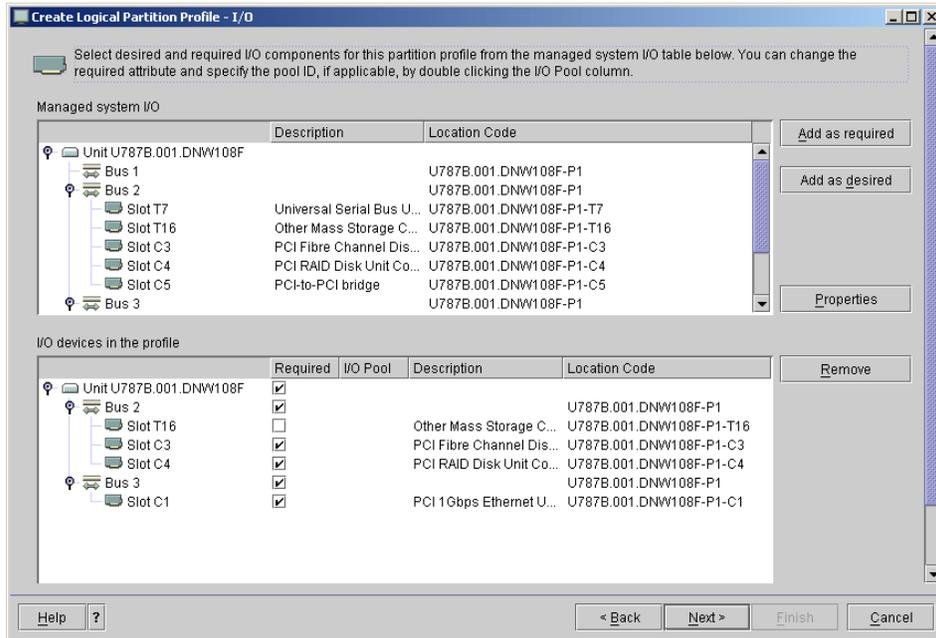

Figure 3-10 Physical I/O component selection
10. Select the physical resources you want to allocate to the Virtual I/O Server. For our basic configuration setup, we used a storage controller with local disks, one DVD drive, and an Ethernet adapter. The Fibre Channel adapter is for SAN disks used later. Figure 3-10 shows the selection for our basic setup. Click on **Next** when you have completed your selections.